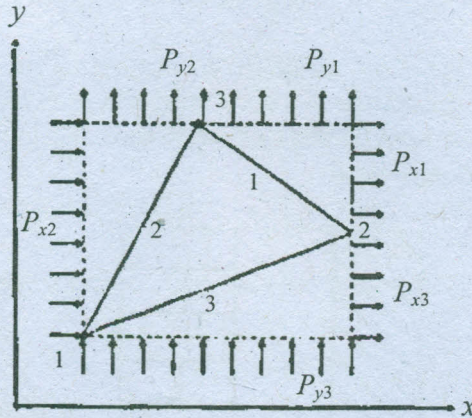

Fig. 13 (b).
- (b) (i) Derive the expression for nodal vector in a CST element subjected to pressures P_{x1}, P_{y1} on side 1, P_{x2}, P_{y2} on side 2 and P_{x3}, P_{y3} on side 3 as shown in Fig. 13 (b). (10)